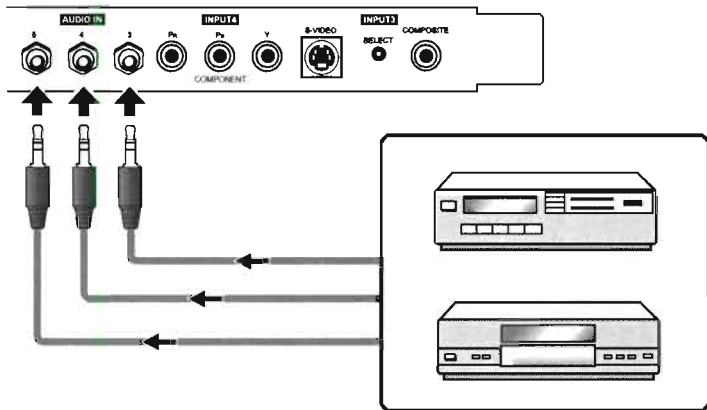

Figure 3-9. Connecting Audio Inputs
Audio Inputs: The CinemaWall has five (5), stereo audio inputs; each one corresponds to a video input. Connect the audio outputs from your source components to these inputs using a cable with a stereo miniplug at the CinemaWall end and the appropriate connector(s) (stereo miniplug or dual RCA plugs) at the other end; see Figure 3-9.